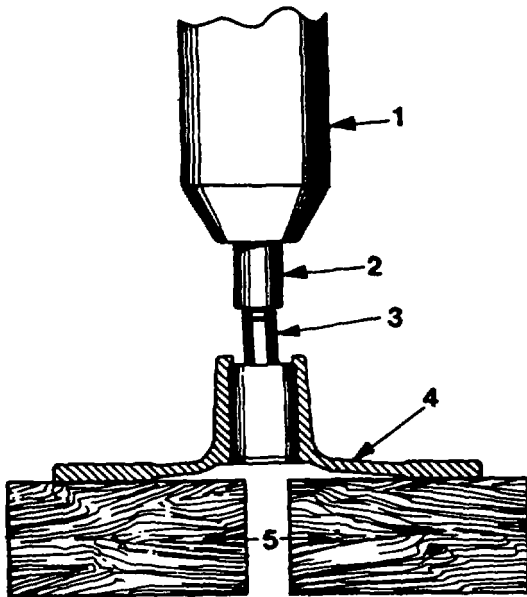

Figure 162. Removing Bearing and Shaft Assembly
4. Using remover adapter tool, press bearing and shaft assembly from fan mounting body (Figure 162).